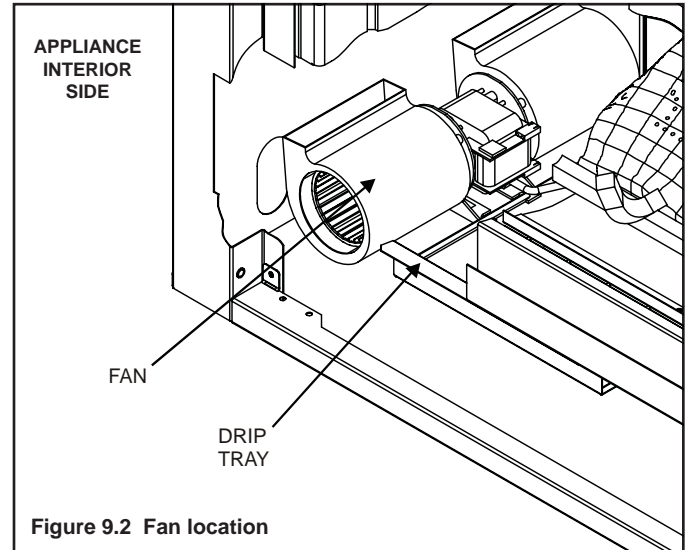

Figure 9.2 Fan location
- Refer to Figure 9.2, Intellifire Pilot Ignition (IPI) Wiring Diagram.
To provide best airflow, we recommend positioning fan on the left side (as viewed from appliance interior side (see Figure 9.2). **NOTE:** It is recommended fan be installed prior to gas line installation.